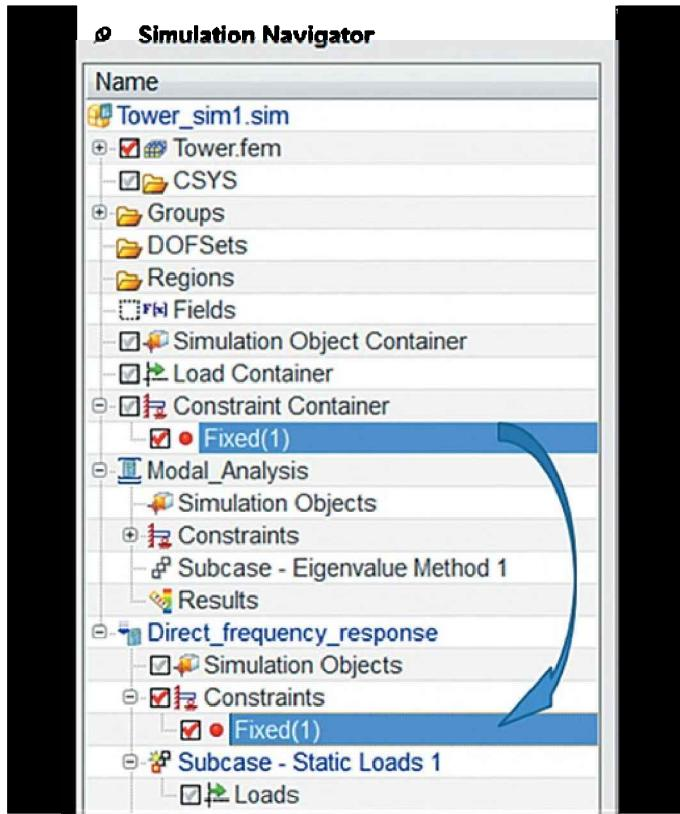

Figure 3.21. Specifying the *Fixed(1)* constraint
5.1. To specify degree of freedom constraints, in the Simulation Navigator tab, expand the *Constraint container* node of the tree view and drag the *Fixed(1)* constraint to the *Constraints* node of the *Direct_frequency_response* solution (Figure 3.21).